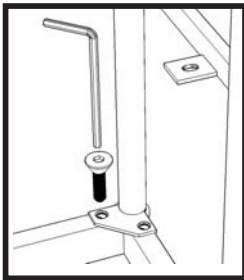

Figure 1
Attach Side Frame (B), (C) onto Top (A) with Head Cap Bolts (short). (See figure 1)